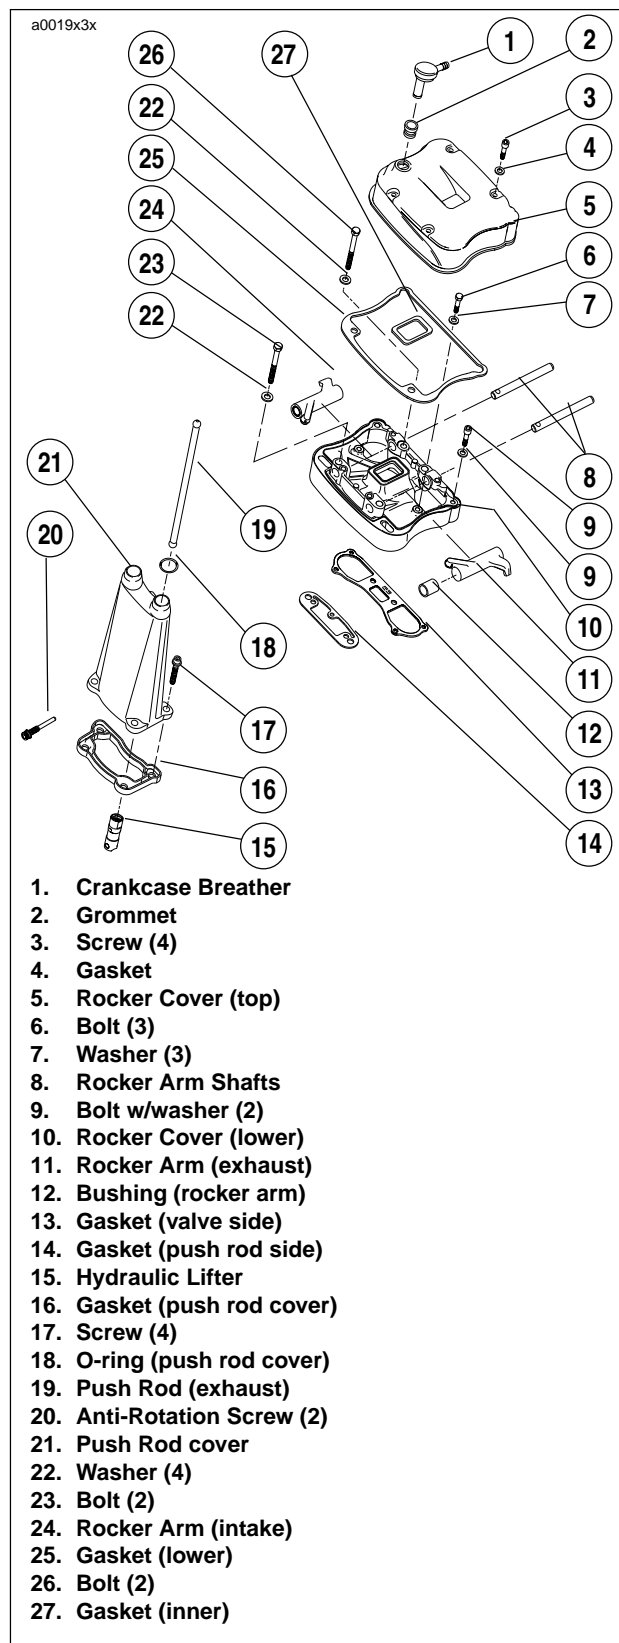

Figure 3-43. Rocker Arm Cover
1. See Figure 3-43. Remove screws with washers and fiber seals. Discard fiber seals.
8. See Figure 3-43. Remove lower rocker cover.
11. See Figure 3-43. Remove rocker arms; mark them for reassembly in their original locations.
17. See Figure 3-43. Remove push rod cover, gasket and valve tappets.